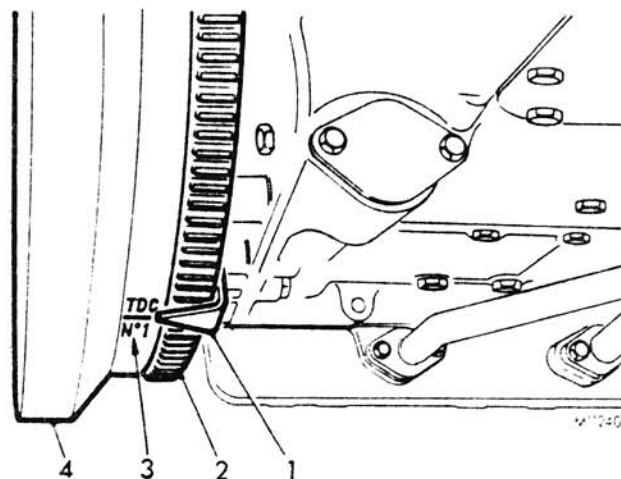

FIG. 3. FLYWHEEL TIMING POINTER
3. Set engine until No. 1 piston is on 'T.D.C.' by turning the engine in its normal direction of rotation and aligning the pointer on the engine rear mounting plate with the mark 'T.D.C.' stamped on the flywheel, Fig. 3. The timing mark on the camshaft gear must also be aligned with the mark on the timing backplate as shown in Fig. 4.